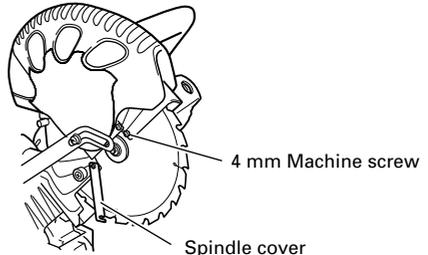
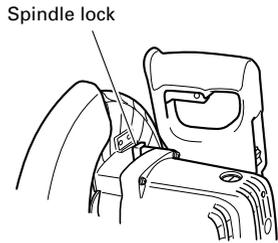
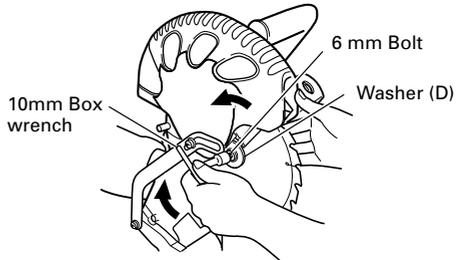
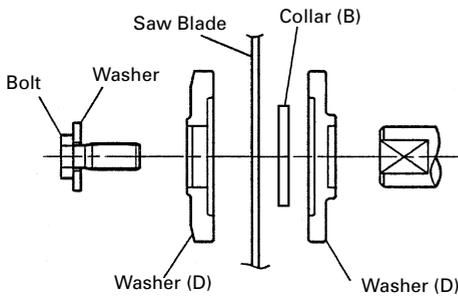

Fig. 21
Fig. 22
Fig. 23
Fig. 24
1. Mounting the saw blade (Fig. 21, Fig. 22, Fig. 23 and Fig. 24)
Since the bolt is left-hand threaded, loosen by turning it to the right as show in Fig. 23.
- (6) Thoroughly clean washer (D) and the bolt, and install them onto the saw blade spindle.
- (7) Press in the spindle lock and tighten the bolt by turning it to the left by standard accessories wrench(10 mm box wrench) as indicated in Fig. 23